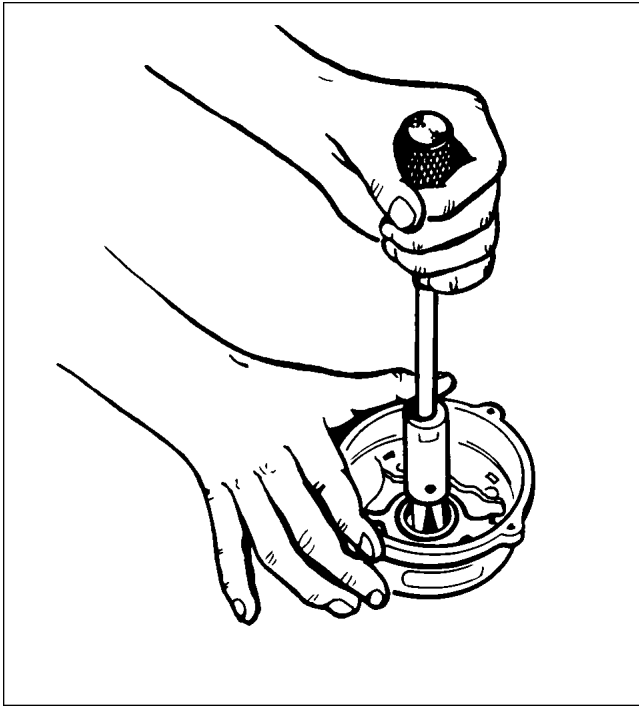

Figure 24-3. Removal of Slip Ring End Bearing
- e. To remove slip ring end bearing and grease seal, have a hook type or impact type bearing puller as shown in Figure 24-3. (Do not remove bearing unless replacement is necessary.)